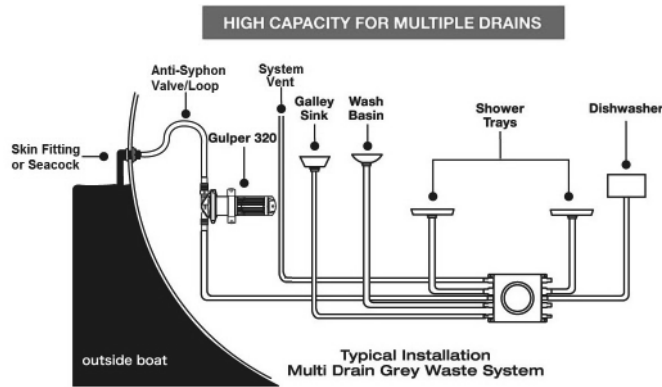
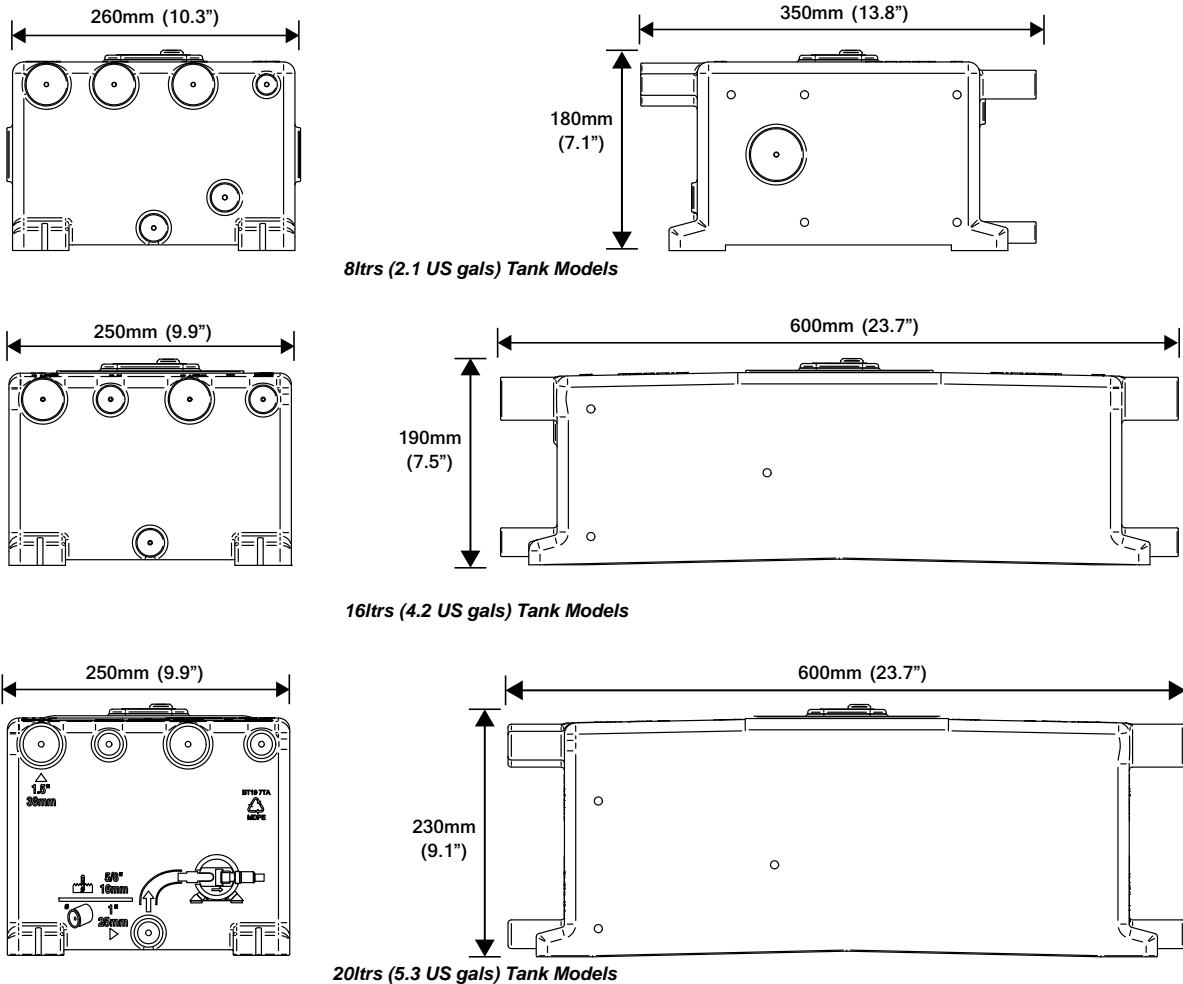

Figure 1 Typical Grey Waste Tank Installation in Multi Drain Grey Waste System
Figure 2 Grey Waste Tank Dimensions
| Fig. 1 | Typical Installation |
| Fig. 2 | Grey Waste Tank Dimensions |
- All pipework **must** contain a correctly installed anti-syphon valve/loop. (Figure 1)
- The pumped water **must** be evacuated through a skin fitting or seacock **above the waterline**. (Figure 1)
The grey waste tank is designed for use with grey waste water in recreational marine vessels. Typical installation is shown in Figure 1. For tank dimensions see Figure 2.